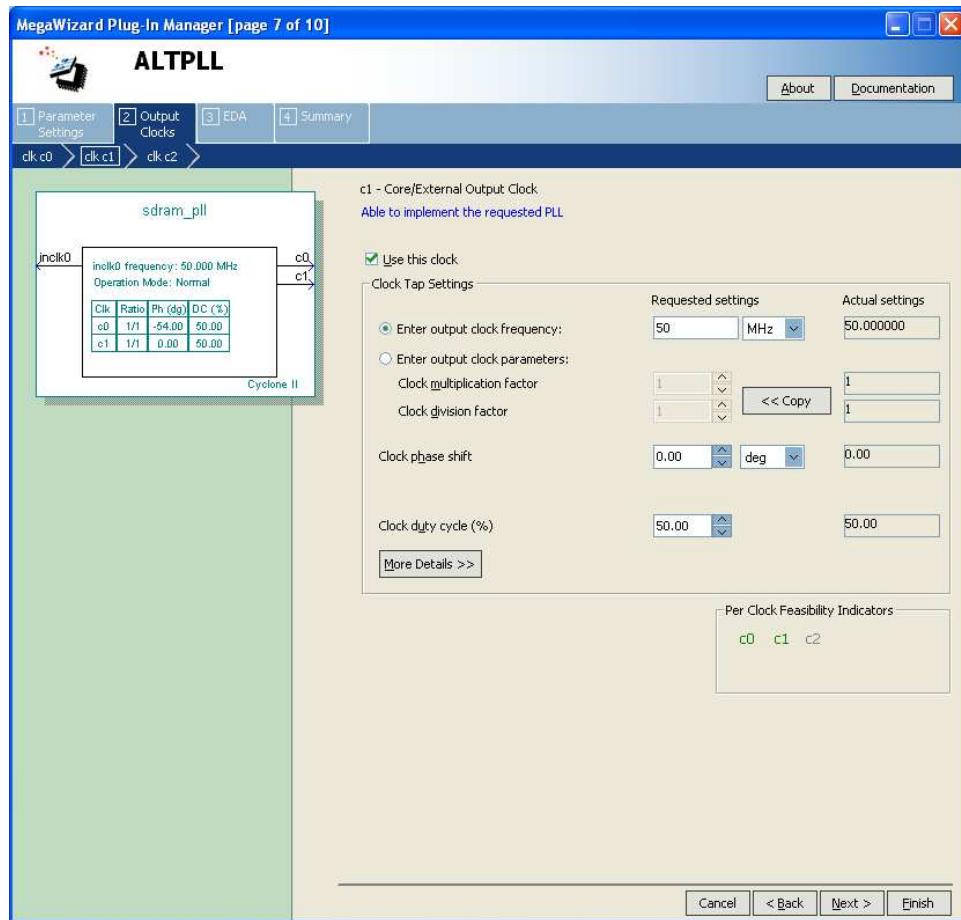

Figure 16. Drive the original clock signal through the PLL.
5. The shifted clock signal is called *c0*. Specify that the output clock frequency is 50 MHz. Also, specify that a phase shift of -3 ns is required, as indicated in the figure. Click **Next** to reach the window in figure 16.